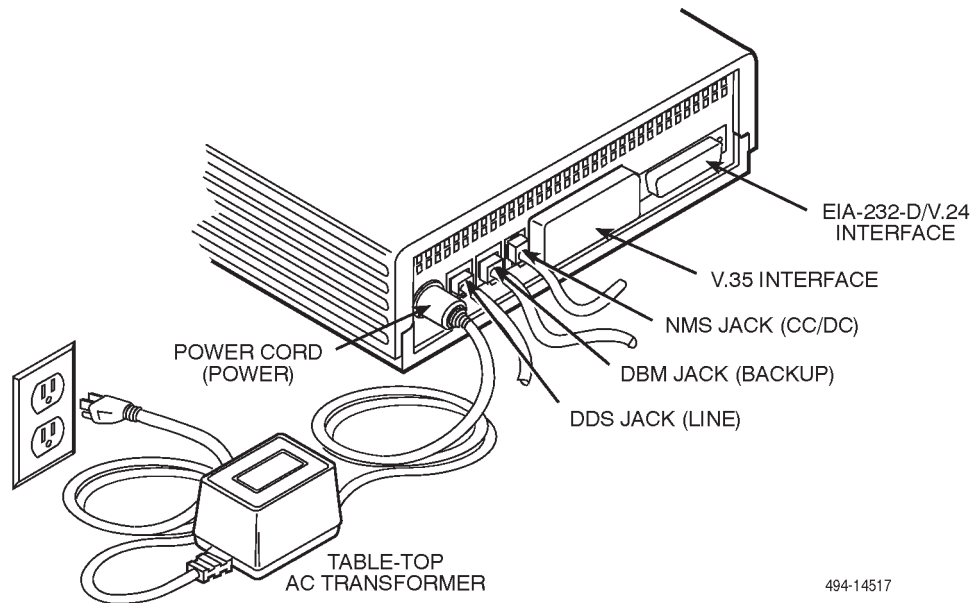

Figure 2-8. Disconnecting the DSU
As you follow these steps, refer to Figure 2-8.
Refer to Figure 2-4 as you close the unit and Figure 2-8 to reconnect cables.
3. Reconnect the power cord to the DSU (labeled POWER), referring back to Figure 2-8.